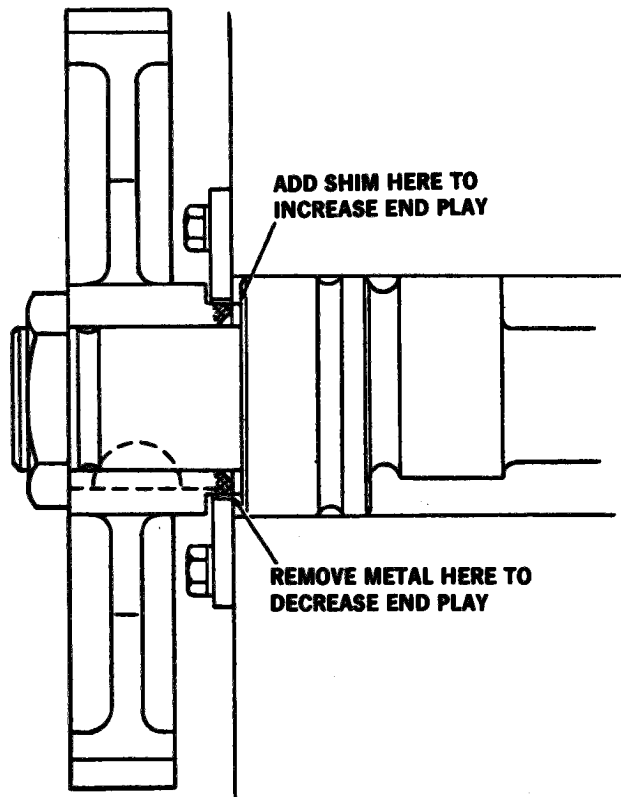

Figure 3-29. Adjusting Camshaft End Play
d. Secure thrust plate (46) to the cylinder block with two bolt and washer assemblies (47). Check camshaft end play. Normal end play is 0.005 to 0.008 inch and shall not exceed 0.012 inch. To decrease end play, use a draw file to remove a small amount of metal from camshaft gear hub on which thrust plate rides. See figure 3-29. To increase end play, add a shim between camshaft gear hub and camshaft bearing, or, using a piece of very fine emery cloth on a surface plate, polish thrust plate to desired thickness. Check backlash of camshaft gear to crankshaft gear. Backlash must be 0.0015 to 0.0025 inch,